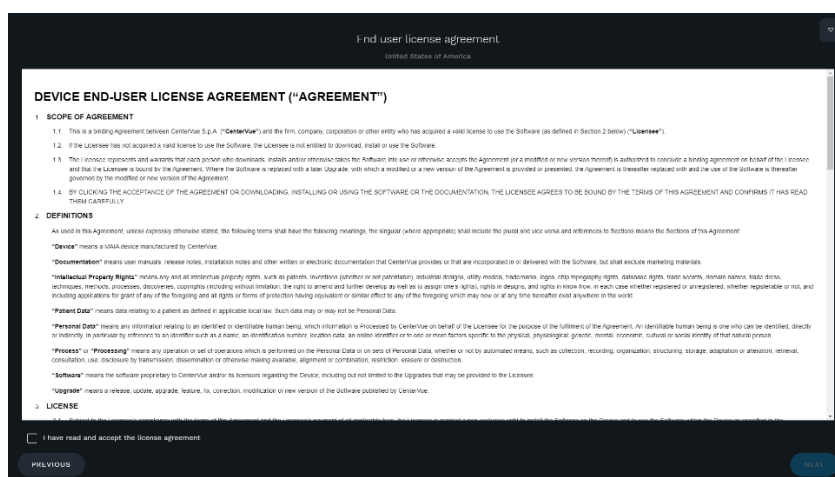

Fig. 14 End-user License Agreement
3. Read and approve the End-user License Agreement (EULA) (Fig. 14). The EULA language changes according to the selected Country. Different types of EULA are defined for EU and EFTA, USA or Other Countries.